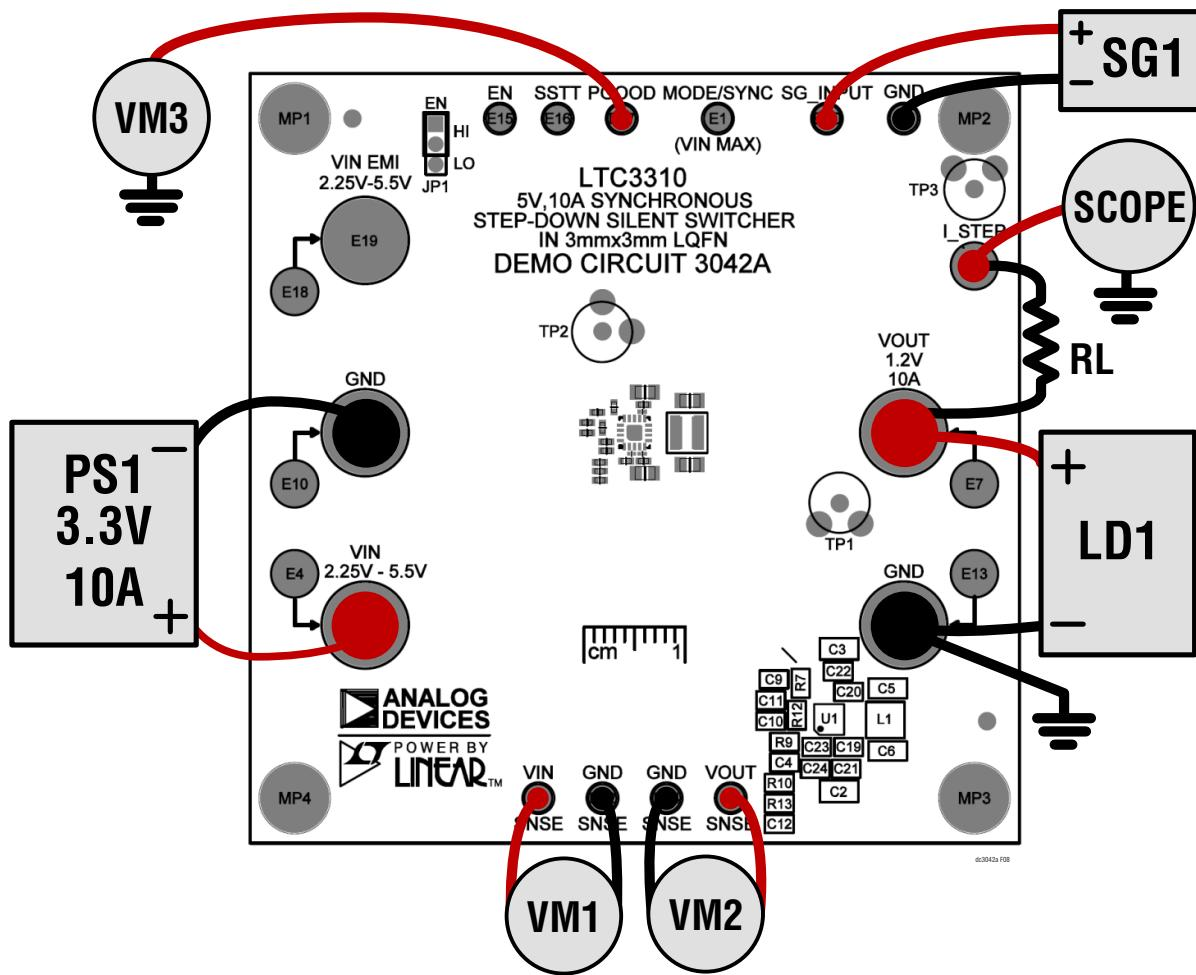
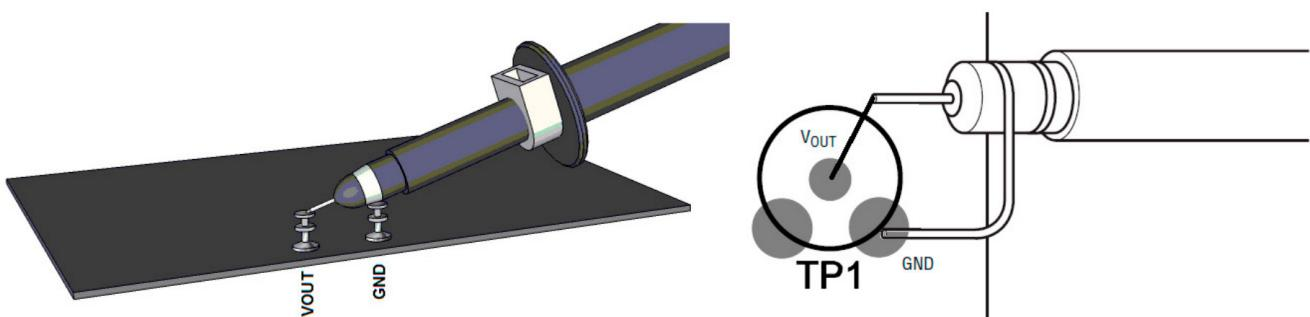

Figure 8. Test Setup for DC3042A
Figure 9. Technique for Measuring Output Ripple and Step Response
Refer to Figure 8 for the proper measurement equipment setup and follow the procedure below.
NOTE: For accurate V_{IN} , V_{OUT} and efficiency measurements, measure V_{IN} at the V_{IN} SNS and GND SNS turrets, and measure V_{OUT} at the V_{OUT} SNS and GND SNS turrets as illustrated as VM1 and VM2 in Figure 8. When measuring the input or output ripple, care must be taken to avoid a long ground lead on the oscilloscope probe. Measure the output voltage ripple by touching the probe tip directly across the output turrets or to TP1 as shown in Figure 9.
3. Set power supply PS1 current limit to 10A. Set the electronic load LD1 to CC mode and 0A current. Slowly increase PS1 to 1.0V. If PS1 output current reads less than 20mA, increase PS1 to 3.3V. Verify that VM1 reads 3.3V and VM2 reads 1.2V. Check VM1, VM2, VM3, PS1 output current and LD1 input current. Connect an oscilloscope voltage probe as shown in Figure 9. Set channel to AC-coupled, voltage scale to 20mV and time base to 10 μ s. Check V_{OUT} ripple voltage. Verify that PGOOD voltage is above 3V.
8. To test the transient response with a base load, add the desired resistor to produce a minimum load between V_{OUT} and I_{STEP} turrets (RL shown on Figure 8). Note that the total load resistance will be RL plus R14 (100m Ω). Adjust a signal generator with a 10ms period, 10% duty cycle and an amplitude from 1V to 2V to start.